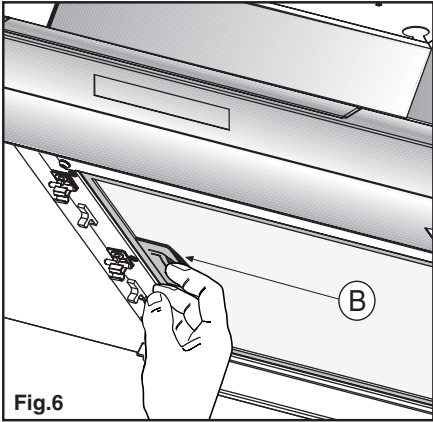

Fig.6
• Before starting to fix the hood, disconnect the anti-grease filter **B** (Fig.6) for easier appliance handling.
Pull handle **B** as shown in Fig.6.